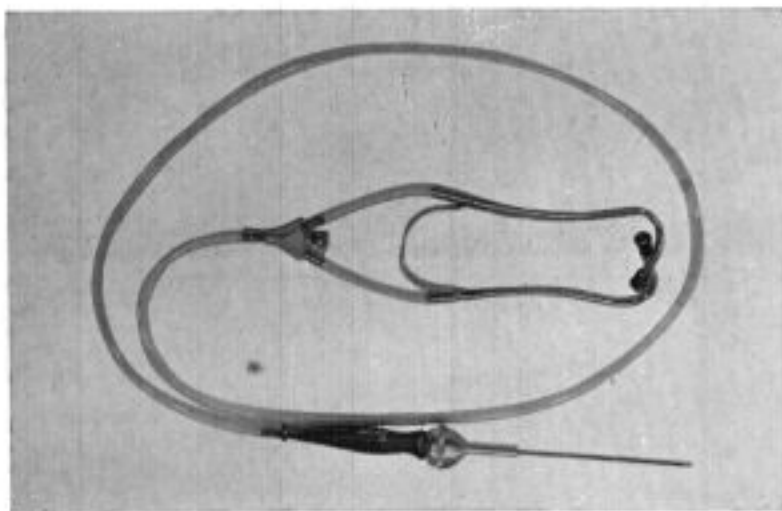

Fig. 10D-16
5. If noise is heard from the steering gear box or around it, locate the exact source of the noise with the sound scope. (Fig. 10D-16)